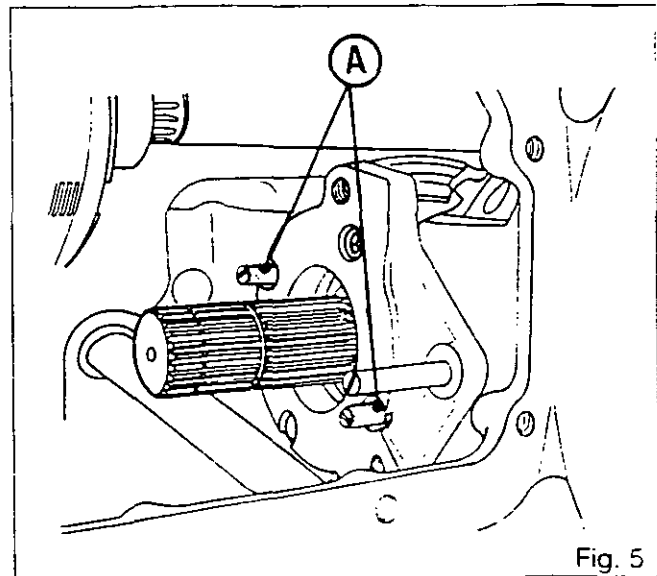
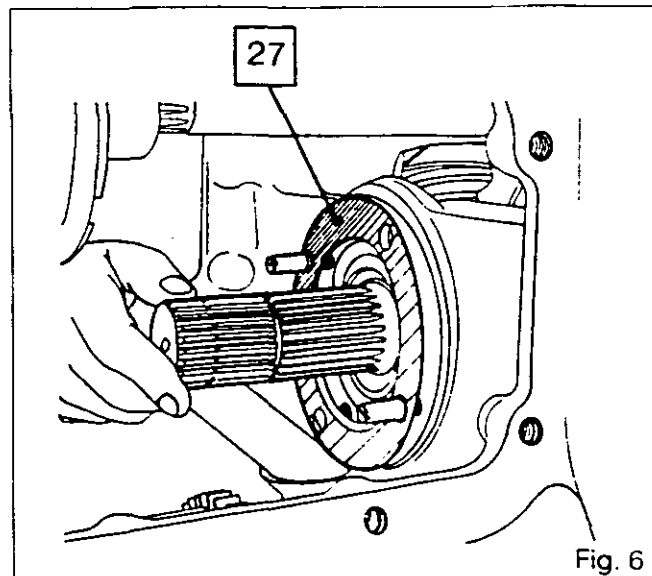

Fig. 5
Fig. 6
28. Remove two diametrically opposed screws (28) and screw in two guide studs (A) (Fig. 5). The purpose of this is to hold the shims [27] (Fig. 6).